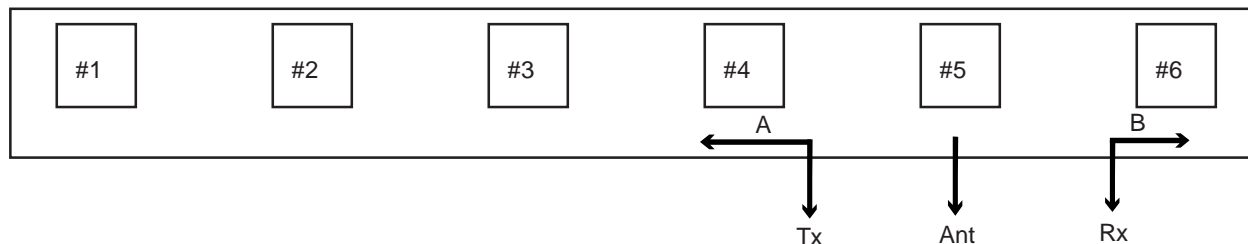

Figure 3 - Duplexer Layout
2. Refer to Figure 3 and locate the transmitter and receiver cavities within the duplexer.
6. See Figure 3 for the location of the transmitter and receiver cavities within the duplexer.